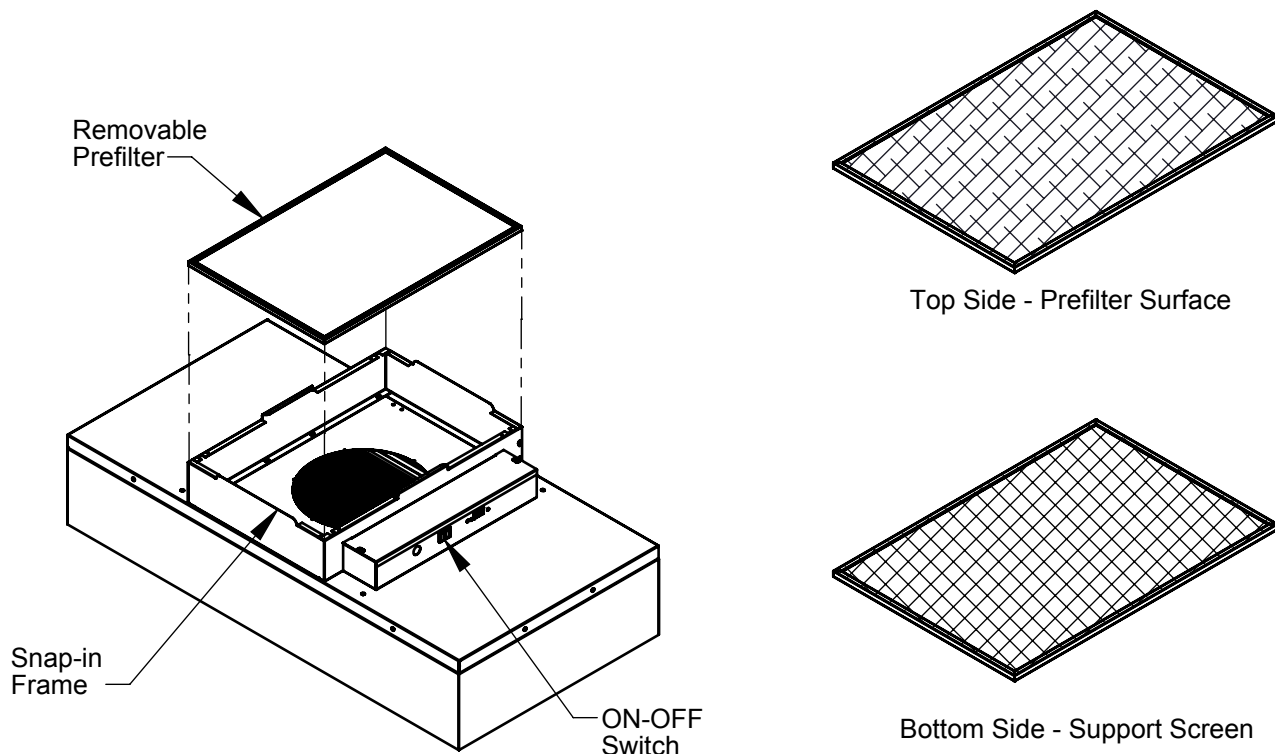

FIGURE 2 - Prefilter Cleaning
4. Remove the prefilter from the snap-in frame as shown in figure 2.